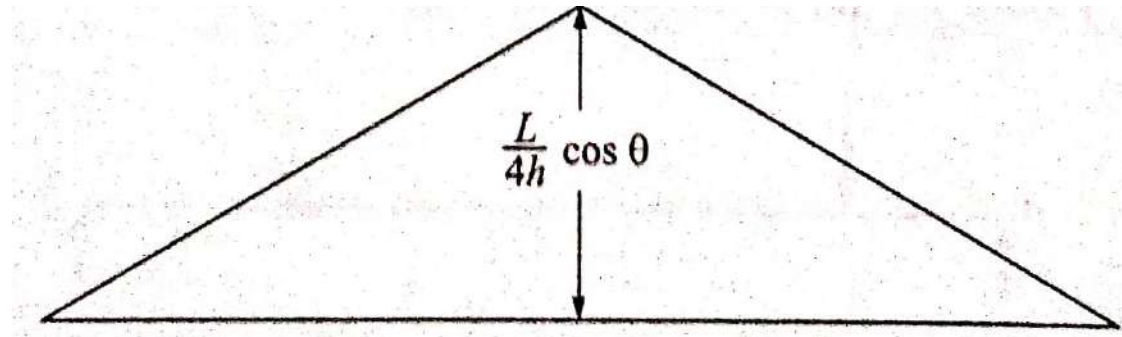

Figure 7: ILD for $H \cos \theta$
- $H \cos \theta$ diagram is a triangle similar to ILD for the horizontal thrust but multiplied by $\cos \theta$ as shown in Figure 7.